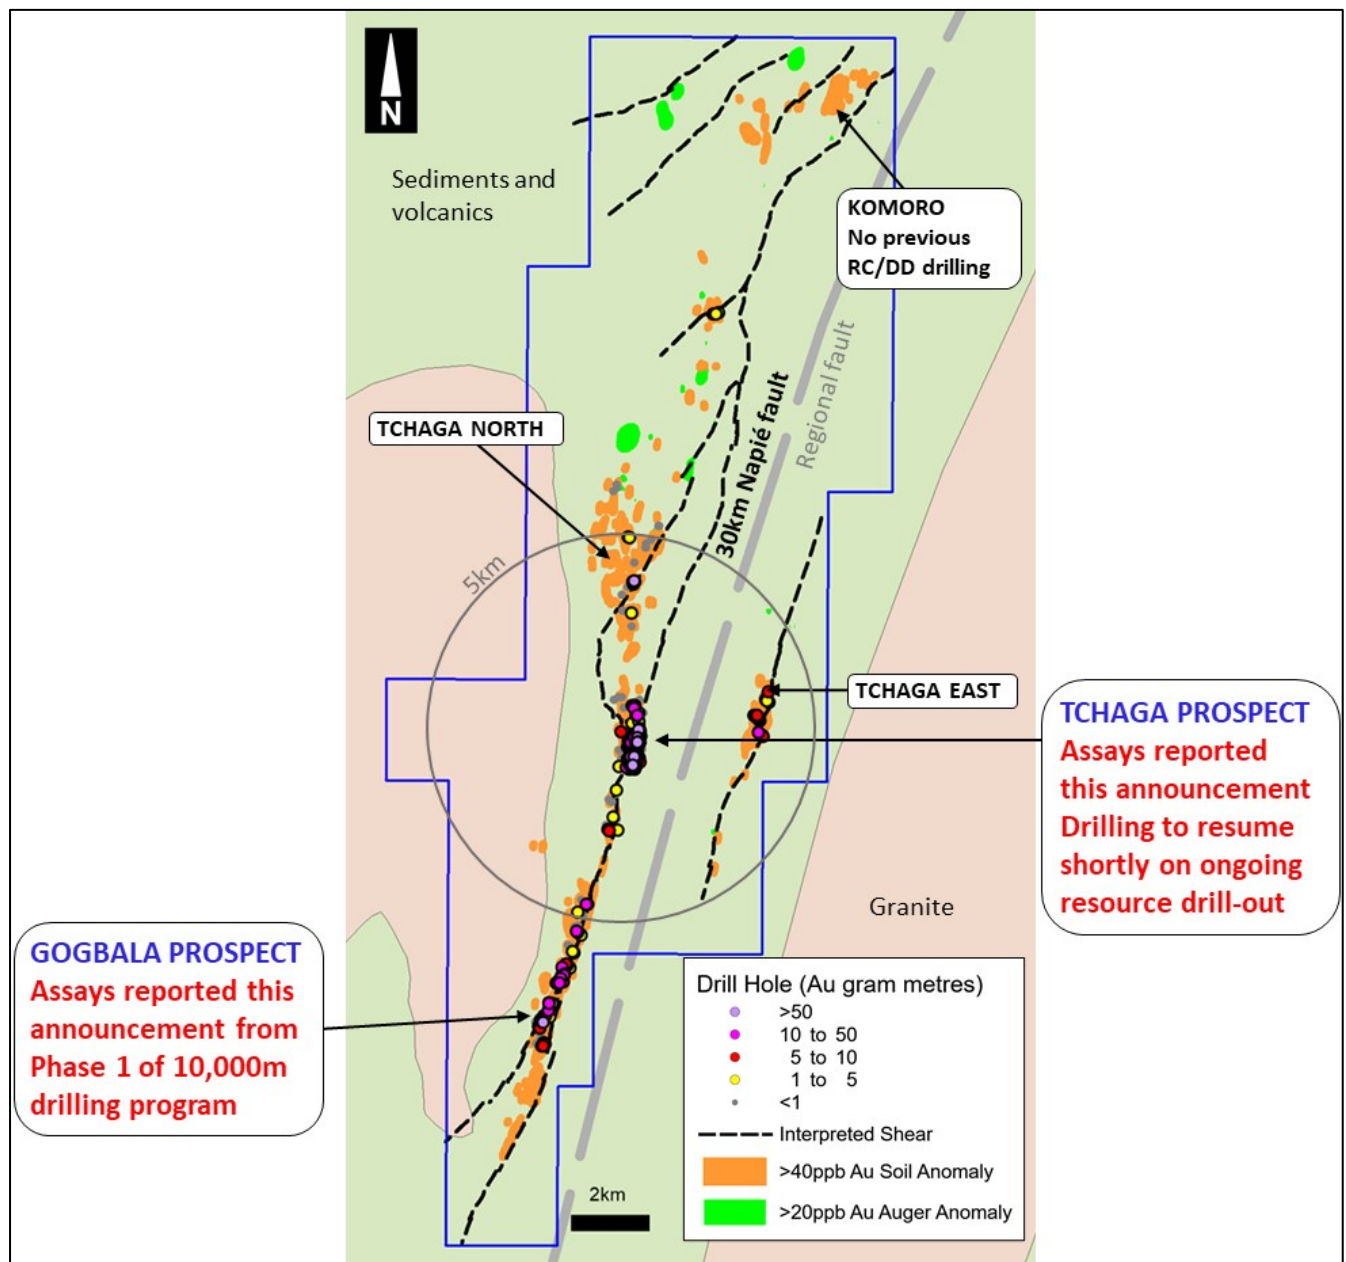

Figure 6: Napié Project – Prospect location map showing Napié Fault
Mako Gold Limited (“Mako” or “the Company”; ASX:MKG) is pleased to advise that it has received the first batch of assay results from the 10,000m reverse circulation (RC) drilling program at the Gogbala Prospect and six diamond drill (DD) results from the Tchaga Prospect, both at the Company’s flagship Napié Project in Côte d’Ivoire. Gogbala and Tchaga are located on the same +23km soil anomaly and coincident 30km-long Napié Fault (Figure 6).
Continuation of drilling at the Tchaga deposit, along with Gogbala, aims to **delineate multi-million-ounce deposits across the Napié Permit** along the 30km Napié Fault (Figure 6).